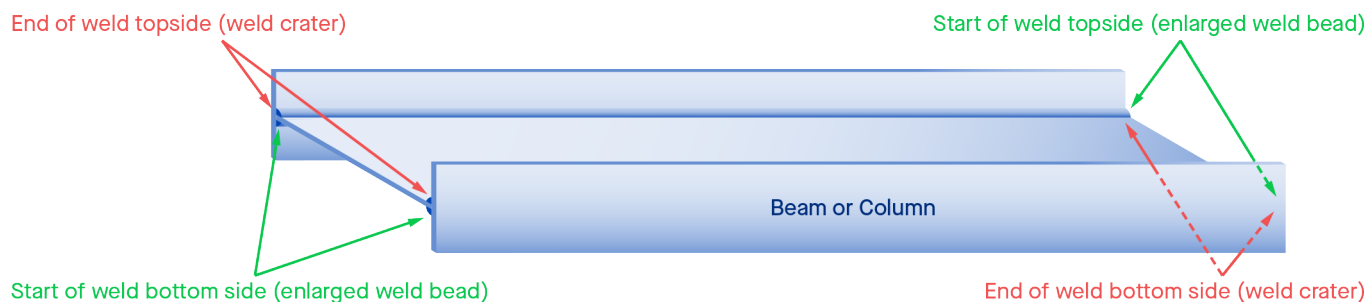

Fig 3. Location of non-usable sections due to weld start/stop conditions.
- See Figure 3 for sections affected by weld start (large weld bead) and weld finish (weld crater). These sections should not be used.